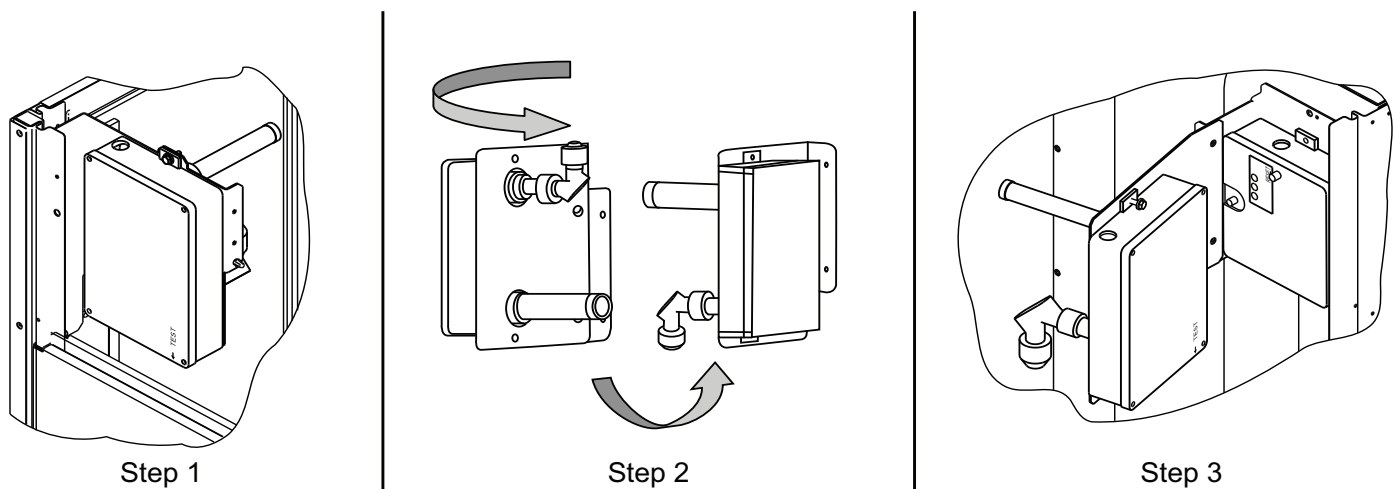

Fig. 58 — Completing Installation of Return Air Smoke Sensor
1. Unscrew the two screws holding the Return Air Smoke Detector assembly. See Fig. 58, Step 1. Save the screws.
2. Turn the assembly 90 degrees and then rotate end to end. Make sure that the elbow fitting is pointing down. See Fig. 58, Step 2.
3. Screw the sensor and detector plate into its operating position using screws from Step 1. See Fig. 58, Step 3.